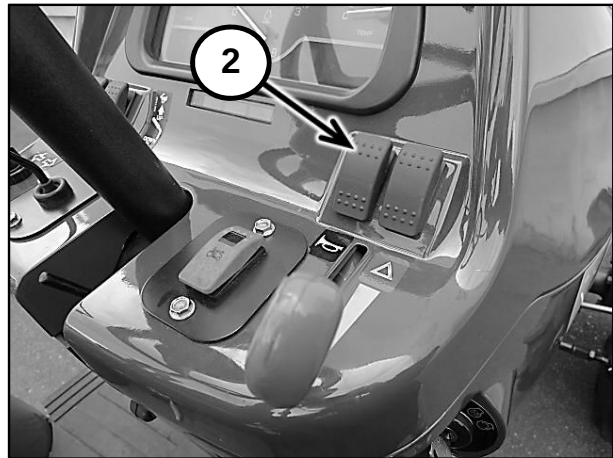

Figure 2-21
To activate the horn, push the rocker switch (2) in Figure 2-21. Horn can be activated with the key switch in any position.